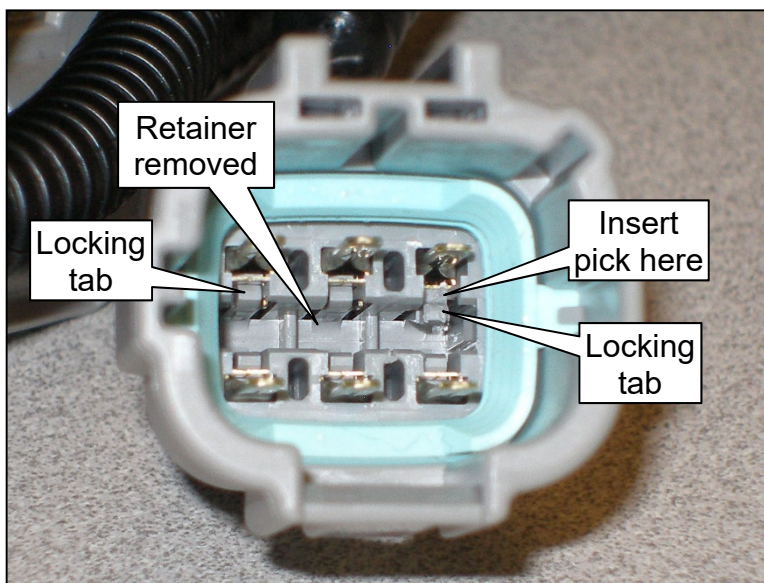

Figure 19
- The right side locking tab in Figure 19 is shown in the unlocked position.